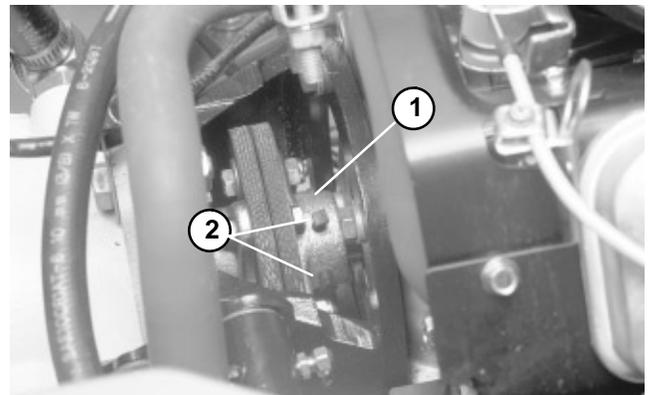
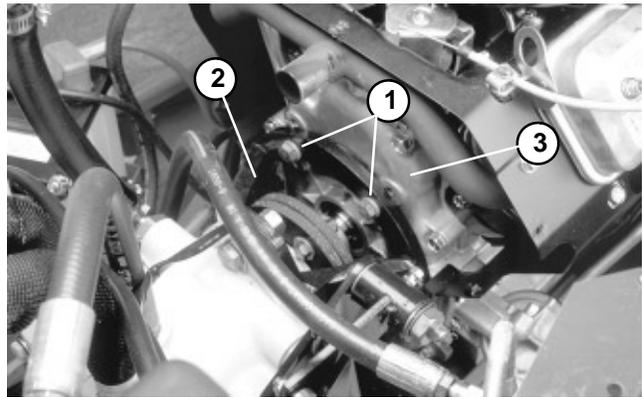

Figure 40
Figure 41
10. Loosen both set screws on the engine hub to remove hub from the pump shaft (Fig. 40).
11. Remove four cap screws and lock washers securing the pump mount to the engine block. Pull pump and mount from the engine and secure to frame. Remove square key from engine shaft (Fig. 41).
12. Remove hex nut (5), lock washer (11), and cap screw (13) securing the black (-) battery cable (26) and wire harness (43) ground wire to the engine block. Pull cable and harness clear of the engine (16).
13. Remove three hex nuts (5), flat washers (3), and cap screws (13) securing the engine (16) to its base (15).
1. Install engine (16) to the engine base (15).
- C. Insert cap screw (13) through engine base and engine block. Install lock washer (11) onto cap screw with battery cable (26) and wire harness (43). Screw hex nut (5) onto the cap screw.
- D. Insert cap screws (13) through engine base and engine block. Install flat washers (3) and screw hex nuts (5) onto the cap screws. Do not tighten fasteners at this time.
3. Position pump and pump mount to the engine. Make sure engine hub slides onto the engine shaft and square key (Fig. 40). Secure pump mount to the engine block with four cap screws and lock washers (Fig. 41).
4. Tighten both set screws securing the engine hub to the engine shaft (Fig. 40).